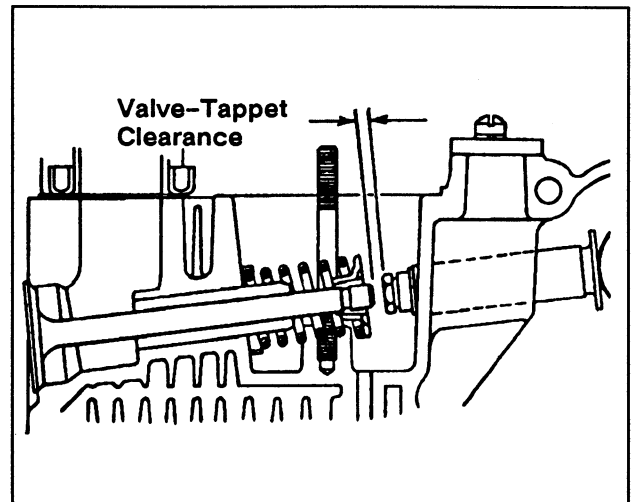

Figure 3-20. Valve-Tappet Clearance
2. Measure the clearance between valve stem and tappet with a feeler gauge. See Figure 3-20. To adjust, turn adjusting screw on tappet in or out until proper clearance is attained.